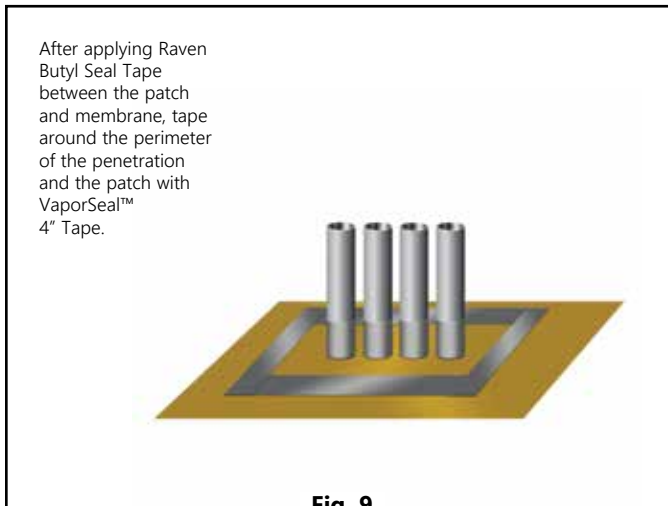
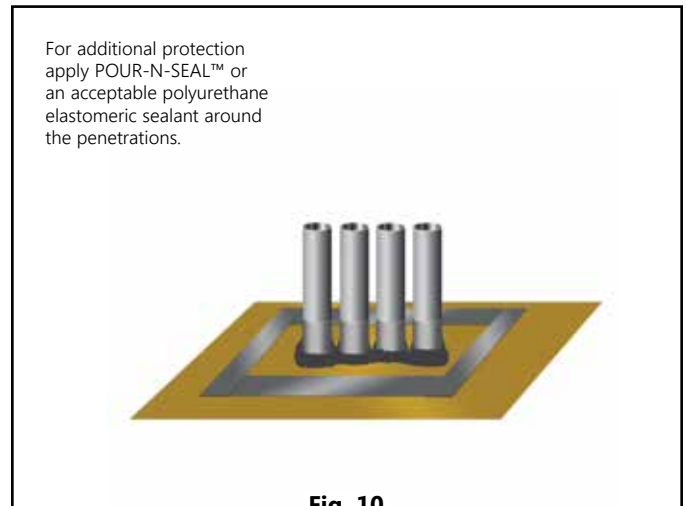

Fig. 9
Fig. 10
- E) After applying Raven Butyl Seal Tape between the patch and membrane, tape around each of the penetrations and the patch with VaporSeal™ 4" tape. (Fig. 9) For additional protection apply POUR-N-SEAL™ or an acceptable polyurethane elastomeric sealant around the penetrations. (Fig. 10)